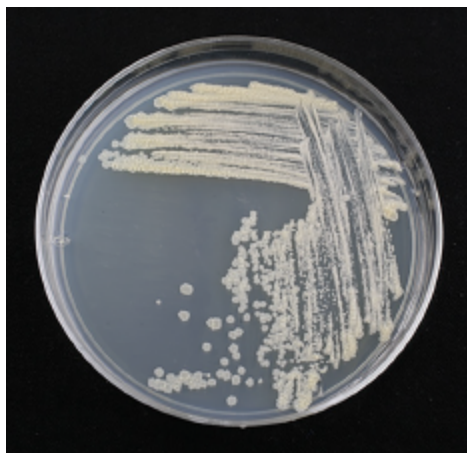

Figure 4.0-4. Mycobacterium smegmatis growing on an agar plate.
M. smegmatis will grow and divide on many nutrient-rich media. In your research, you will grow *M. smegmatis* on 7H9 media supplemented with albumin and dextrose (AD) at 37 °C. Under these conditions, *M. smegmatis* grows at its fastest, dividing approximately once every 3 hours. This means that it typically takes about 3–4 days for an individual colony growing from a single cell on an agar plate. However, when preparing a bacterial lawn, you can start by adding many bacterial cells (e. g., 10⁷ or more) so that a lush lawn grows within 20–24 hours. *M. smegmatis* will also grow at 30 °C, but it divides more slowly and therefore requires more time to form either a colony or a lawn. For reproducibility of experiments, it is important that cultures used for a given set of experiments be prepared at the same temperature.
M. smegmatis mc2155 colonies are tan-white in color and dry, rough, and wrinkled in texture (Figure 4.0-4). A liquid culture of *M. smegmatis* inoculated from a single colony will take 3–5 days to form a saturated liquid culture, exhibiting a tan-white color. The strain you will work with, *M. smegmatis* mc2155, is not inhibited by the antibiotic ampicillin or the antifungal cyclohexamide. Therefore, these can be added to the growth media to prevent other microorganisms from growing in your cultures.